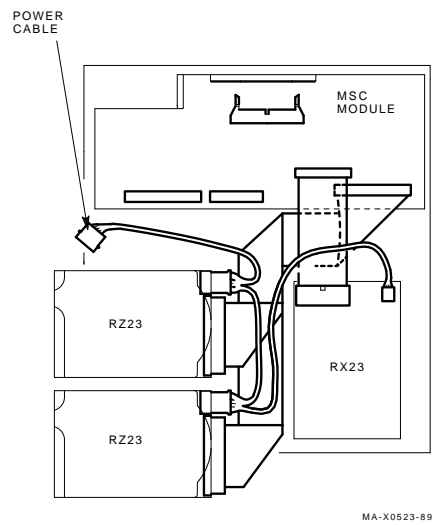

Figure 3-7 Connecting the RZ23 Data and Power Cables with an RX23 Diskette Drive
3. Connect the data and power cables to the RZ23 and to the MSC module as shown in Figure 3-7 (with an RX23) or Figure 3-8 (with a TZ30).